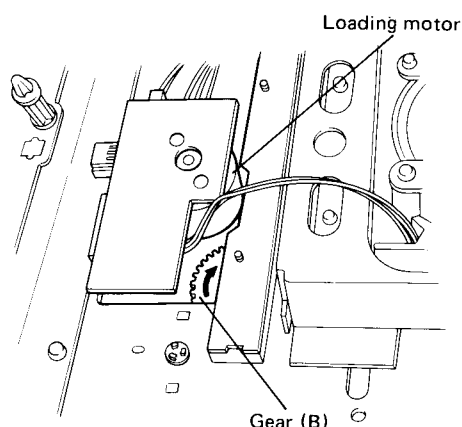

Fig. 6
3. Turn the gear (B) clockwise by inserting your finger through the rectangular hole on the side of the loading motor; the turntable will move down and the disc tray will come out open. (Fig. 6) When the disc tray comes out a little, it can be opened with your hand.